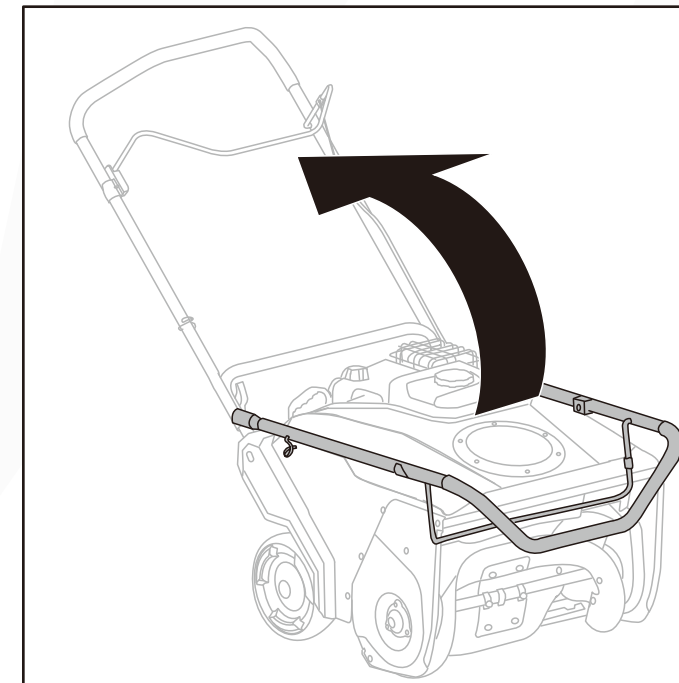

Fig.2A
1. Pivot the upper handle from the stored position to the working position. (Fig.2A)